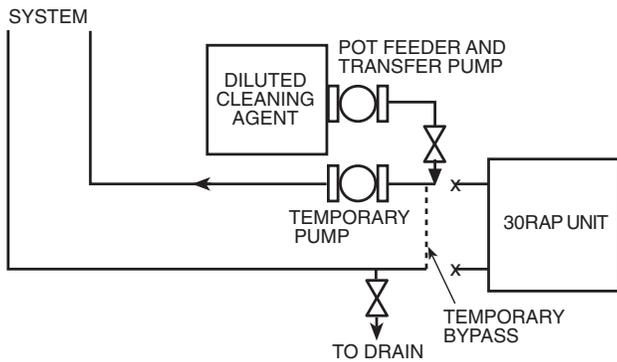

Fig. 20 — Typical Set Up for Cleaning Process
1. Install a temporary bypass around the chiller to avoid circulating dirty water and particulates into the pump package and chiller during the flush. Use a temporary circulating pump during the cleaning process. Also, be sure that there is capability to fully drain the system after cleaning. (See Fig 20.)